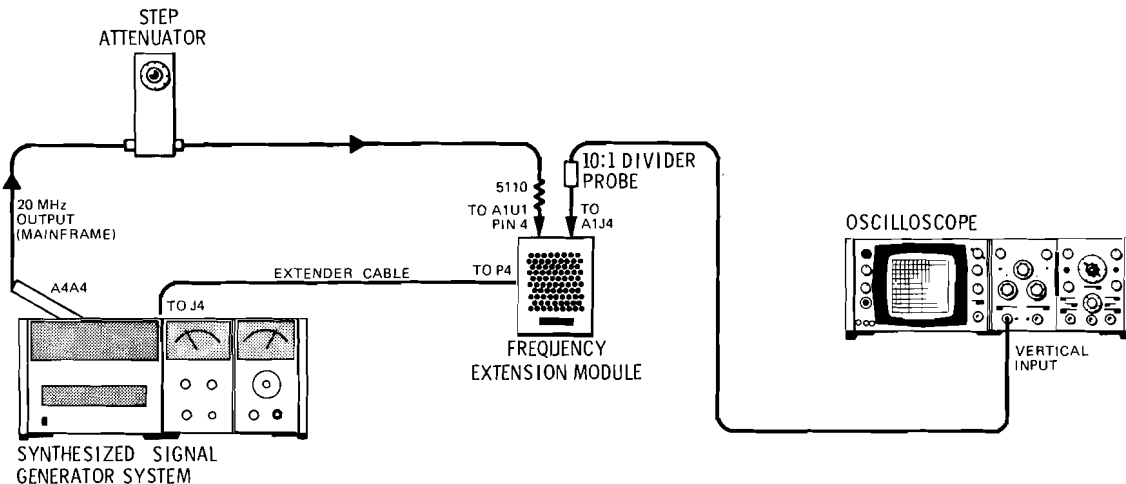

Figure 5-3. 20 MHz IF Amplifier Adjustment Test Setup
4. Connect the equipment together as shown in Figure 5-3.